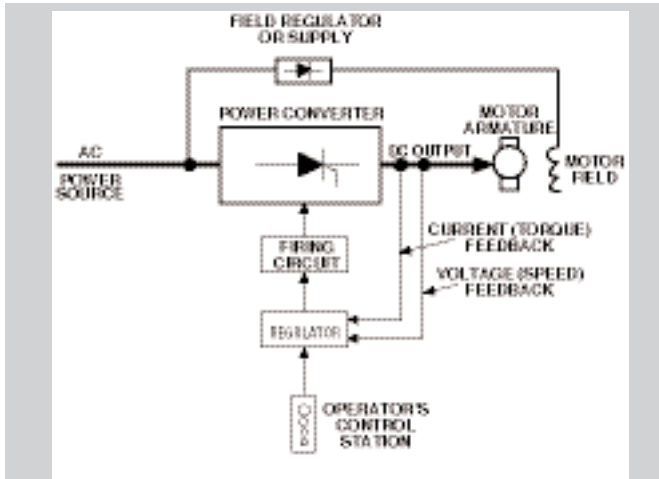

FIGURE 2. TYPICAL DC DRIVE
DC drives, because of their simplicity, ease of application, reliability and favorable cost remain the backbone of industrial applications. A typical adjustable speed drive using a silicon controller rectifier (SCR) power conversion section, common for this type unit, is shown in Figure 2. The SCR, (also termed a thyristor) power converter converts the fixed voltage alternating current (AC) of the power source to an adjustable voltage, controlled direct current (DC) output which is applied to the armature of a DC motor.